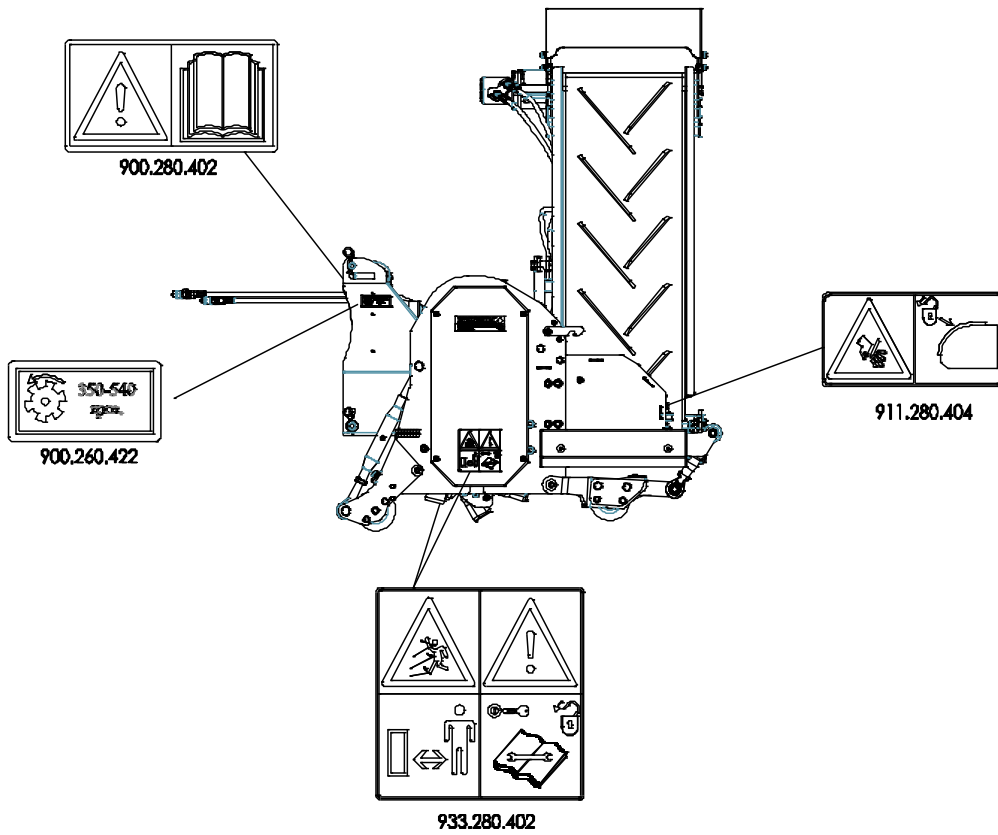

Figure 7
7. Location of the Turf-Stripper 1200 safety stickers (Figure 7).